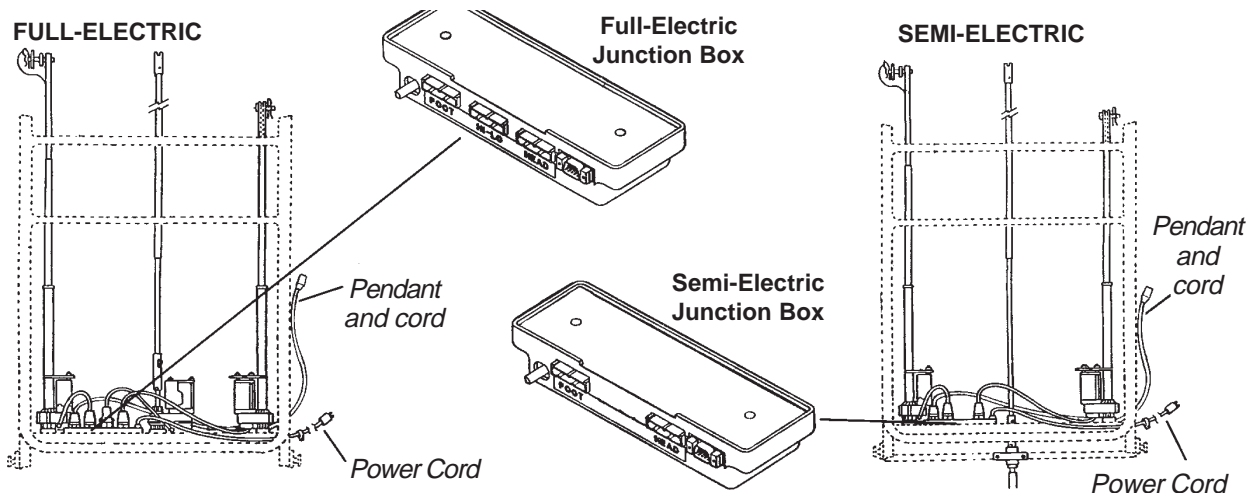

FIGURE 11 - ACTIVATING THE BED FUNCTIONS (FULL/SEMI ELECTRIC BEDS ONLY)
**ACTIVATING THE BED FUNCTIONS (FIGURE 11)**